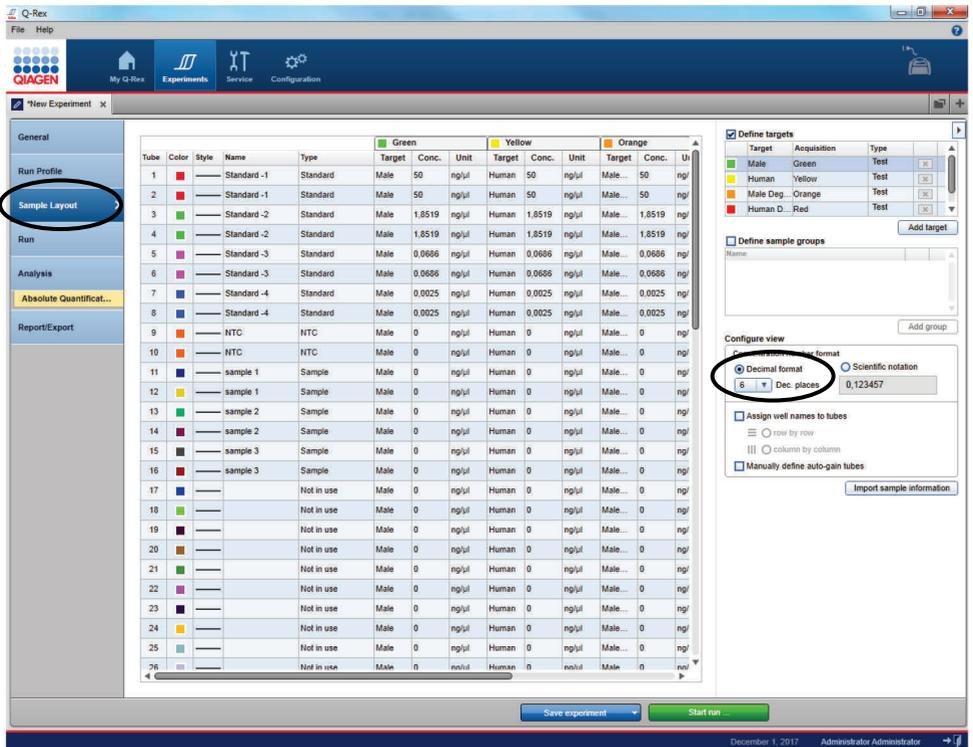

Figure 26. Confirmation of sample settings in Q-Rex.
38. Click on left side in the step marker on "Sample Layout" (Figure 26). Confirm sample layout (Standards, NTCs and Samples). Tubes that are not being used should be marked as "Not in use". Sample type can be changed by right clicking on the "Type" field. Select appropriate decimal format (Figure 26).
2. Standards must be defined before a standard curve can be created. If the standards were defined before the run was started, proceed to step 3, otherwise edit sample layout as described on page 44, Figure 26.